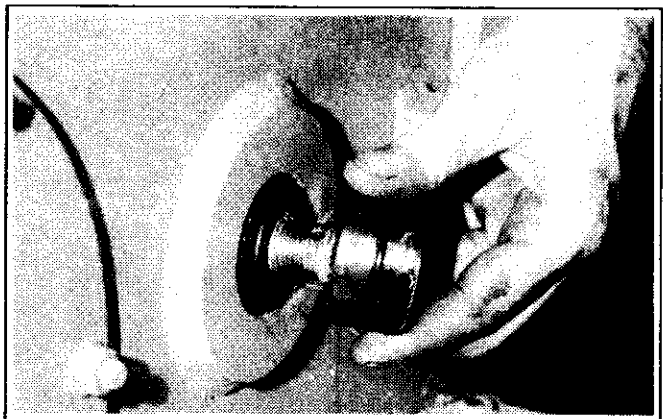

Figure 6-23
12. Install the retaining sleeve. (See figure 6-23)